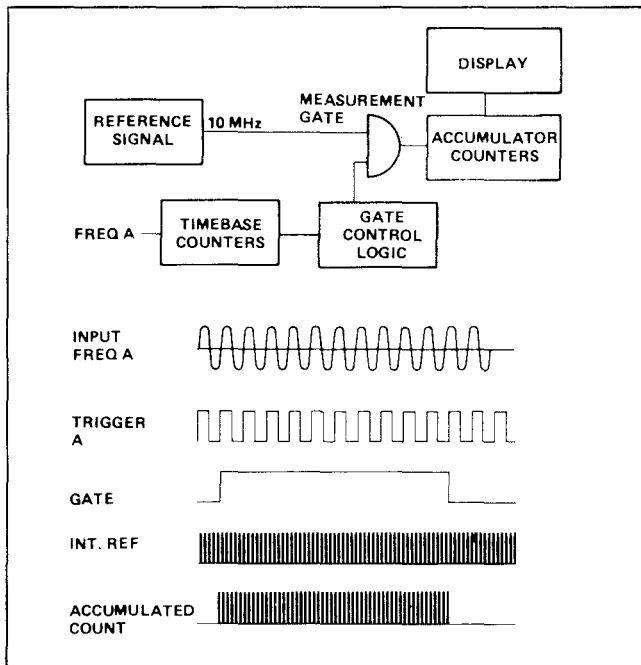

Figure 1.4 - Period Average
1.3.4.2 In this mode of operation (figure 1.4), the reference signal is routed directly to the measurement gate and the unknown signal is routed through the time base to the control logic which, in turn, controls the measurement gate. The pulses occurring during measurement gate-open are counted, stored, and an accurate readout measurement is displayed. The gate-open period is determined by the time base selected.